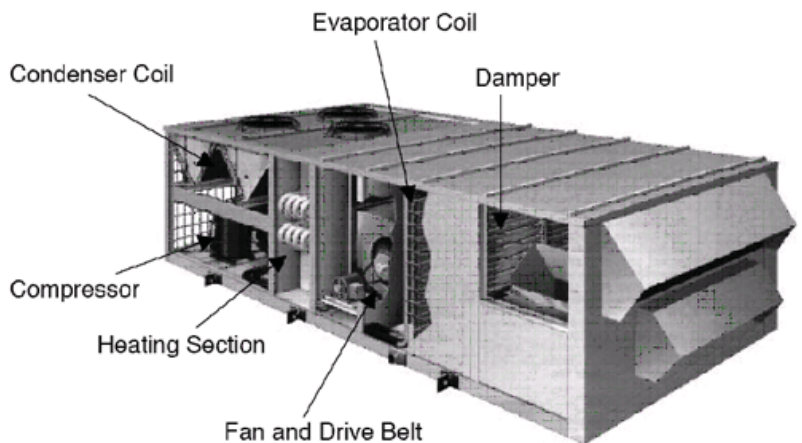

Figure 2
2. Rooftop Units (RTU's) are packaged HVAC units typically located on the roof of the building. (See Figure 2)